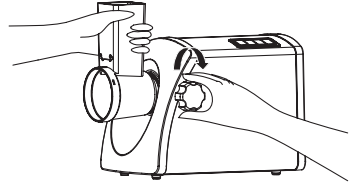

Figure 14.
2. Insert and hold the shredding head into the grinder. Insert the locking knob into the side of the appliance and turn clockwise to tighten the knob (fig. 14). **DO NOT OVER TIGHTEN.**